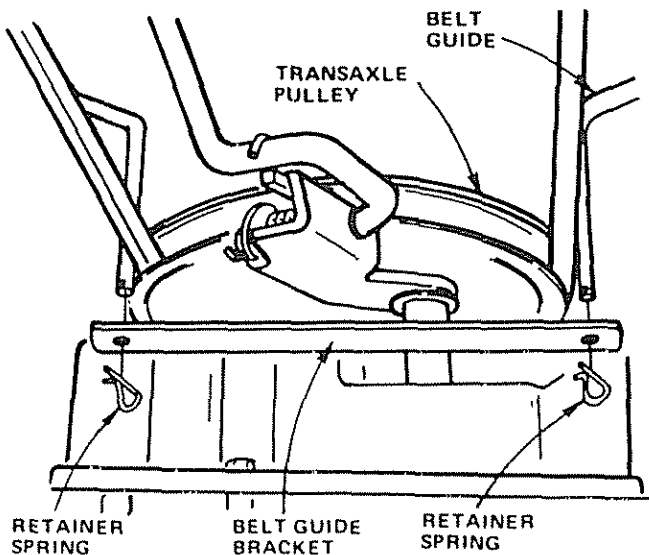

FIGURE 21
- b. Remove two retainer springs from belt guide bracket below transaxle pulley. Remove bracket (Fig. 21).
- c. Swing belt guides away from belt, toward rear of tractor (Fig. 21).